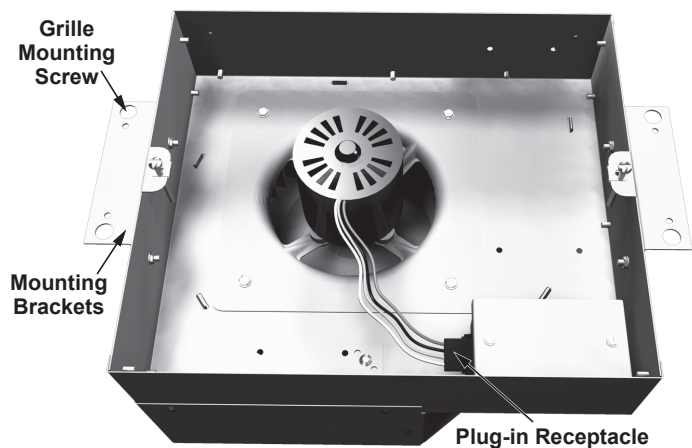

Figure 4 - Gemini 100 Series Components
- Install mounting brackets as shown in *Figure 4*.
To inspect, clean or repair refer to *Figure 4* and follow these steps: